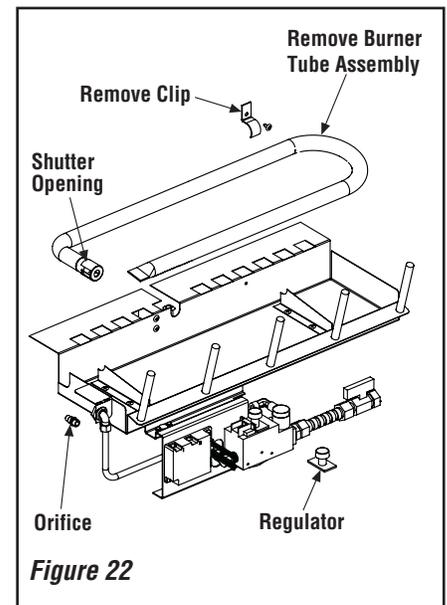

Figure 22
Step 3. Refer to *Figure 22*.
Step 6. (Refer to **Figure 22, Page 15**)
- B. Retrieve the burner and slide the venturi tube over the orifice. Secure the burner in place with the clip shown in **Figure 22, Page 15**.